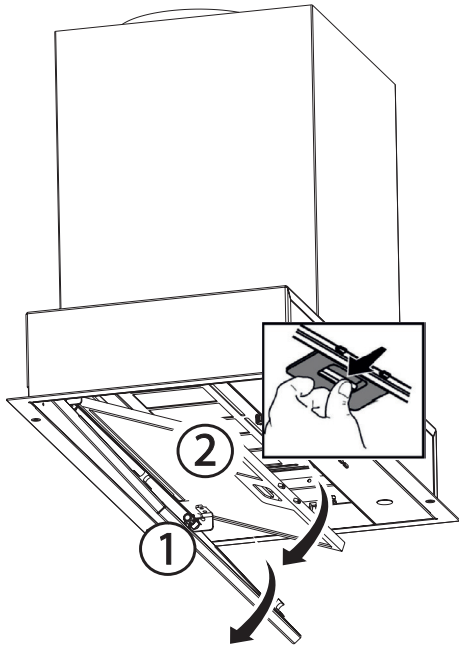

Fig. 6
1. ➤ Open the side aspirator (Fig. 6/1).
3. ➤ Open the lock of the metal oil filter (Fig. 6/2) and ensure that it will not fall.
4. ➤ Tilt the metal oil filter forward and lift it out (Fig. 6/2).